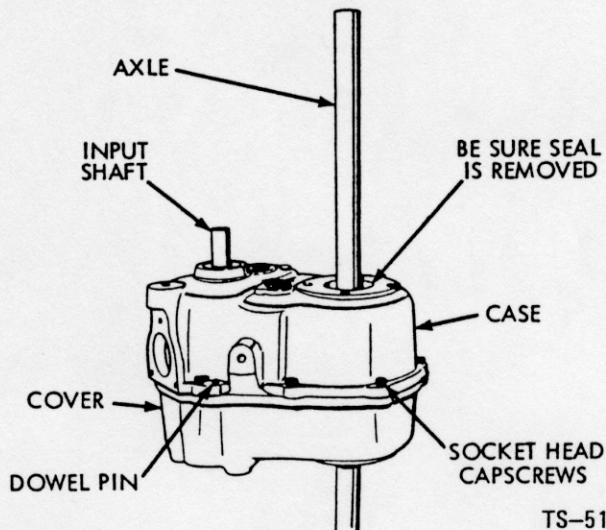

Figure 63
7. Drive dowel pins into the cover (Figure 63) and remove (8) socket head cap screws.